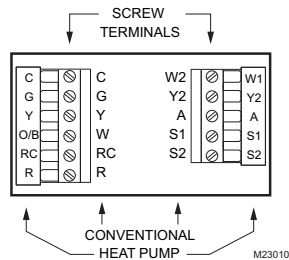

Fig. 4. Terminal identifications for system type.
- Select set of terminal identifications that correspond to your system type (conventional or heat pump). (See Fig. 4).